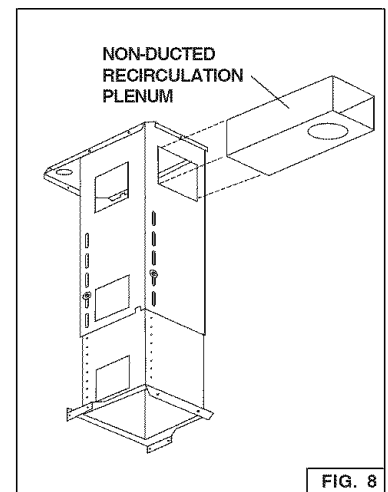

FIG. 8
1. Insert the non-ducted recirculation plenum through the support frame openings. Fig. 8.